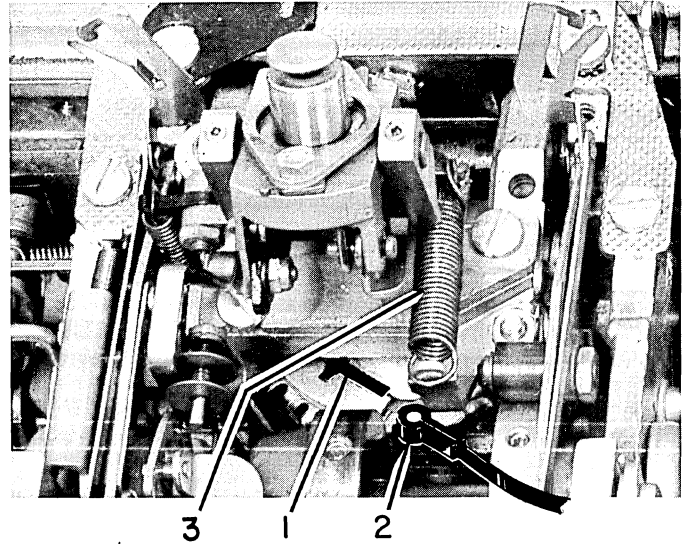

FIGURE 17. Rotate Tape Replacement
4. Disconnect the tilt-pulley tension spring (#3, Figure 17).
5. Pull the tilt ring toward the front of the machine and turn the rotate pulley until the T-slot is accessible (#1, Figure 17).
6. Insert the rotate tape, eyelet first (#2, Figure 17), be-